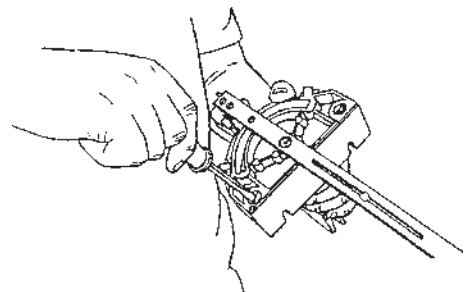

Figure B-81
- b. Use a medium screwdriver to screw the glides in or out, as illustrated in Figure B-81, so that the glides hold the miter gauge 1/64" to 1/32" off the worktable and the miter gauge does not rock in the slots.